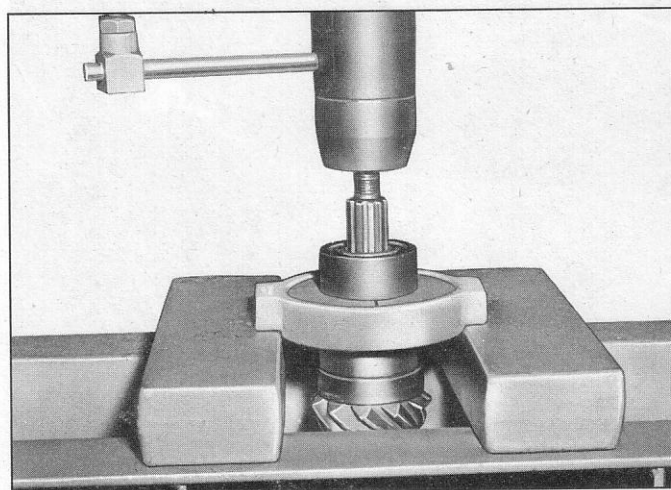

Fig. 21—Removing Front Pinion Bearing
10. Press front bearing from pinion using pinion bearing remover J-996 (fig. 21).